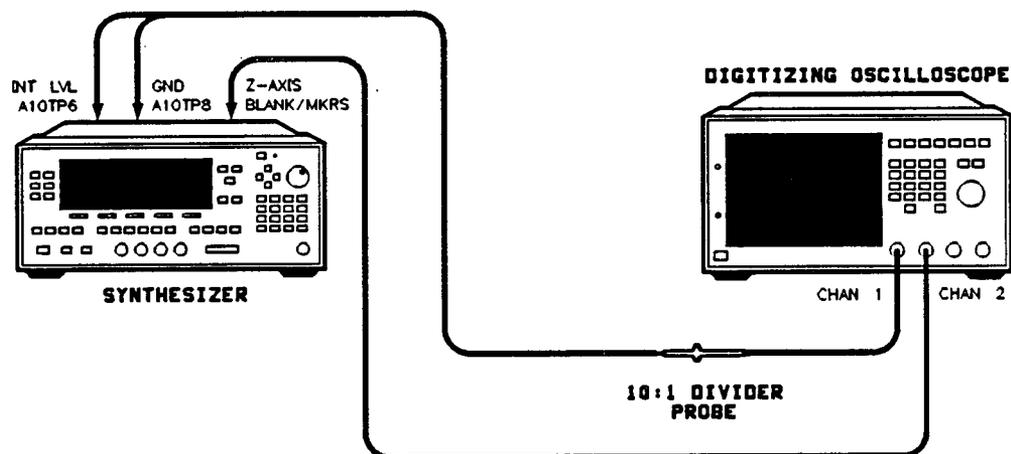

Figure 3-23. Modulator Offset and Gain Adjustment Setup
1. Connect the equipment as shown in Figure 3-23. Preset the instruments and let them warm up for at least one hour.
Select **Modify Cal**. Use the numeric keypad to enter the corresponding default value in Figure 3-23. Terminate your entry with the **ENTER** key.
- Using the up/down arrow keys, select each of rest of the calibration constants in Figure 3-23 and set their default values by entering the value on the numeric keypad. Terminate your entry with the **ENTER** key.
7. Connect the oscilloscope as shown in Figure 3-23.